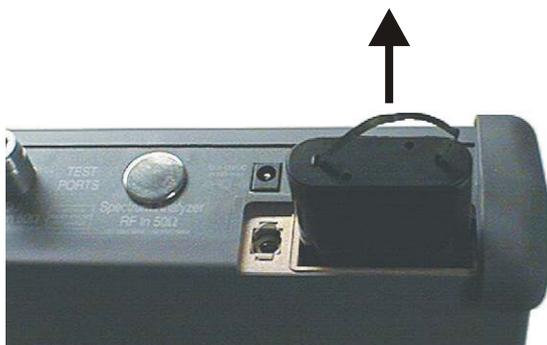

Figure 3-4. Removing the Battery
4. Grasp the battery lanyard and pull the battery straight up and out of the unit, as illustrated in Figure 3-4.